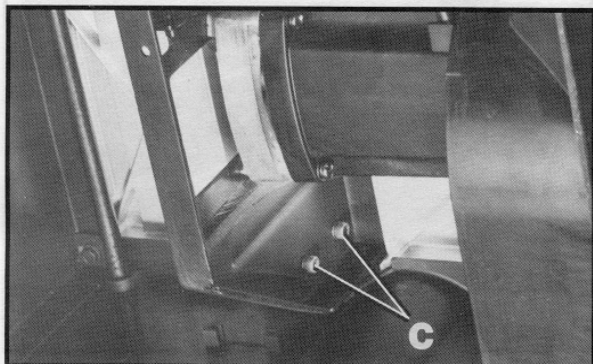
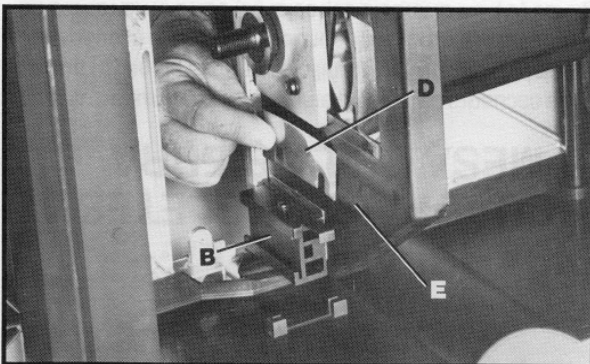

Fig. 16
Fig. 17
6. Loosen the two screws (C) Fig. 16, that attach the splitter holder (B) Fig. 17, to the saw frame (E).
7. Three additional splitter shims, one of which is shown at (D) Fig. 17, are supplied with your saw and can be used as required between the splitter holder (B) and the frame (E) in order to align the splitter with the saw blade.
8. After adjustment is completed, tighten the two screws (C) Fig. 16.